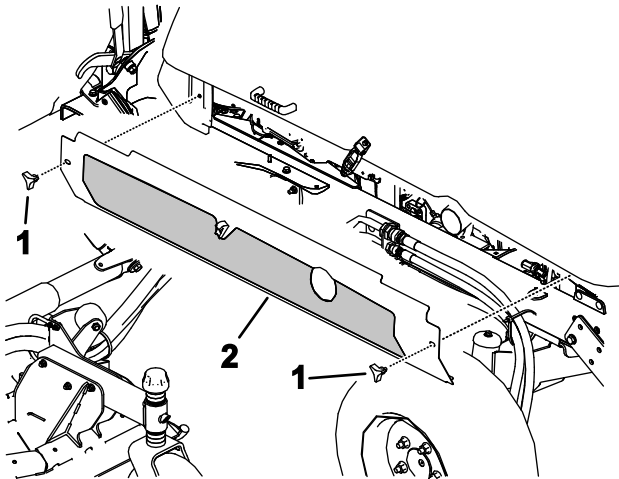

**Figure 100**
2. Remove the three 3 flange screws from each side of the rear bumper as shown in Figure 100.
6. Raise the rear bumper into position and install the flange screws. Tighten all the flange screws securing the rear bumper to the frame (Figure 100).